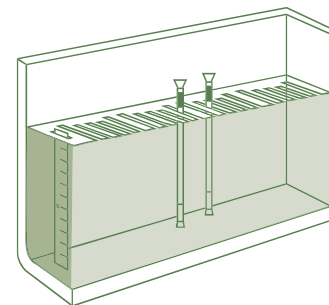

Figure 2
- 3) Fix the container straw on the V-shaped fixing groove of the shelf, and the bottom end of the container straw color mark is flat with the shelf (as shown in Figure 2).